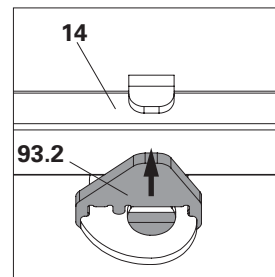

Fig. A11.06d
2. Lift the pressure plate (**93.2**) and push it towards the horizontal ledger (**14**). (Fig. A11.06d – A11.06f)